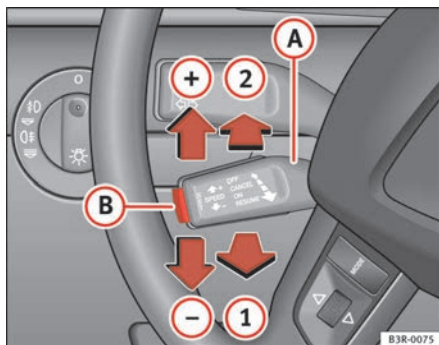

Fig. 143 Controls for the cruise control system
- Pull the lever **A** to position \Rightarrow fig. 143 **1** to enable the system.
- Move the lever **A** up towards \Rightarrow fig. 143 **+**.
- Move the lever **A** down towards \Rightarrow fig. 143 **-**.
- You can increase the set speed in steps of 2 km/h by briefly pressing the lever **A** up towards \Rightarrow fig. 143 **+**.
- You can decrease the set speed in steps of 2 km/h by briefly pressing the lever **A** down towards \Rightarrow fig. 143 **-**.
If no speed was stored when the system was temporarily disabled, a new speed can be set as follows: drive at the desired cruising speed and briefly press button ⇒ page 171, fig. 143 **B** (SET).
- Press the lever **A** ⇒ page 171, fig. 143 to position **2** (click stop engaged).